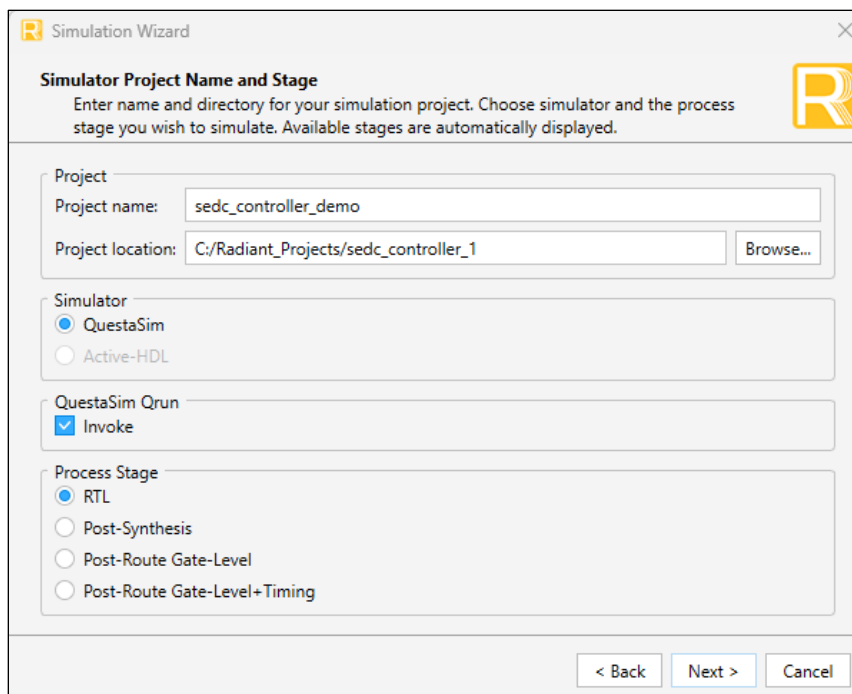

Figure 5.4. Simulation Wizard
1. Click the  button located on the **Toolbar** to initiate the **Simulation Wizard** shown in Figure 5.4.
2. TMR error injection by *_tmr_err_inj input stimulus patterns is guarded with ifdef macros by default because the injection involves hierarchical references that only work for RTL simulation. Refer to the example in Appendix C on how to add +define+LSCC_SEDC_CONTROLLER_RTL_SIM in the *.f file generated by the Simulation Wizard if you want to observe the behavior. This must only be applied when you have selected **RTL** under **Process Stage** in the Simulation Wizard as shown in Figure 5.4. You must recompile the simulation files for this directive to take effect.